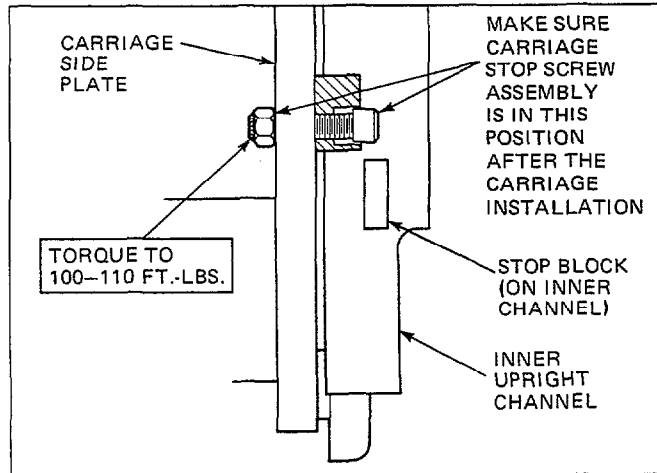

Figure 41. Carriage Stop Screw Assembly
- Thread in the carriage stop screw assemblies. See Figure 41. Torque to 100–110 ft.-lb.